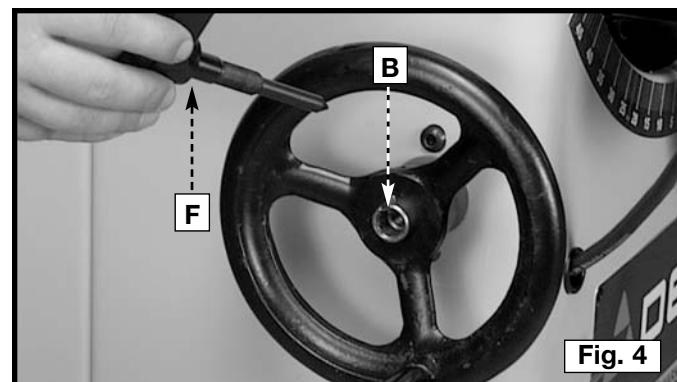

Fig. 4
4. Thread the lockknob (F) Fig. 4 into the shaft (B). Hand-tighten lock knob.